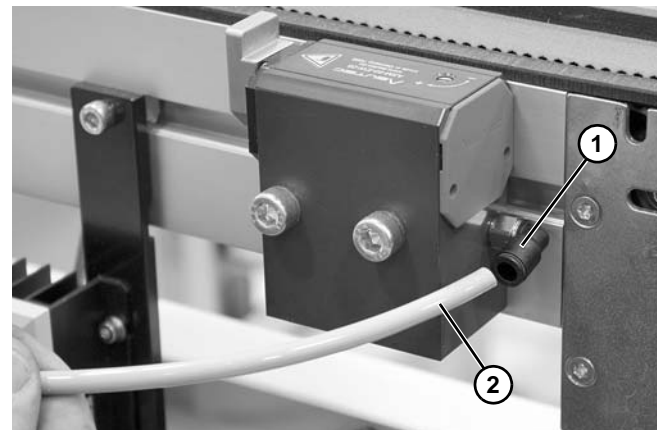

Figure 65
- Connect the 3-port 2-way solenoid valve to the stop. Dorner fittings (**Figure 65, item 1**) accept 1/4" outside diameter tubing standard (**Figure 65, item 2**).